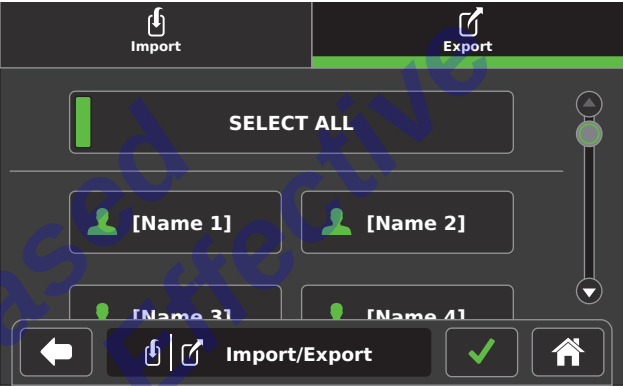

Figure 16 – Import/Export Screen
3. Touch the **SELECT ALL** button or touch the individual preset(s) to import/export (*Figure 16*).